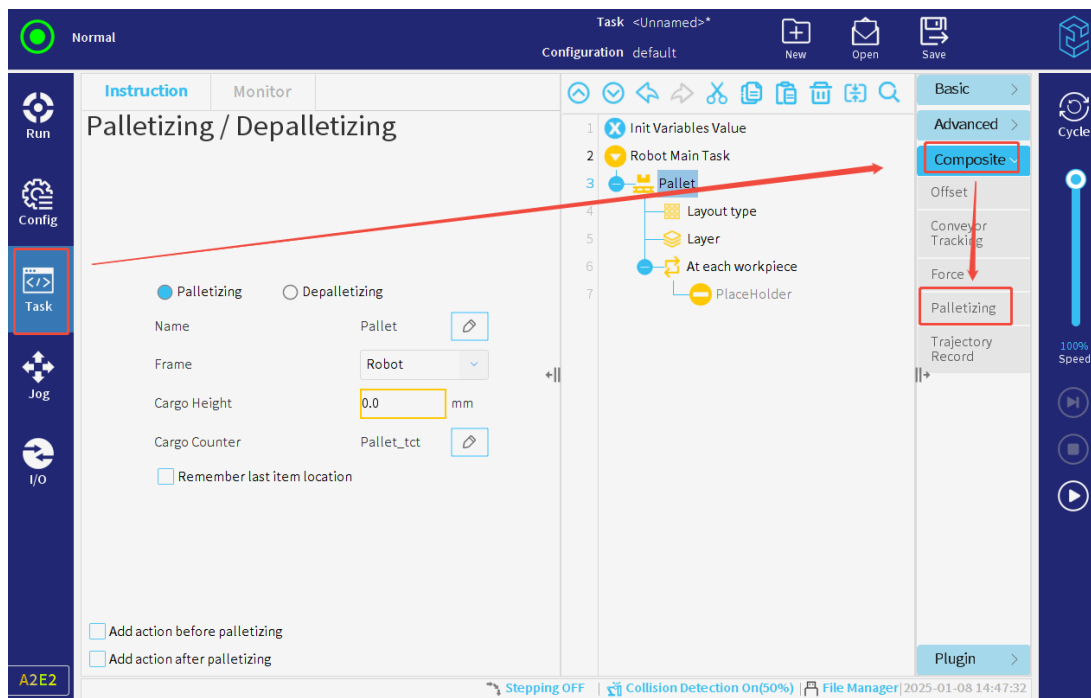

Figure 3-122 : Set palletizing task parameters
2. Set the palletizing task name, frame, and cargo height, as shown in **Figure 3-122**.